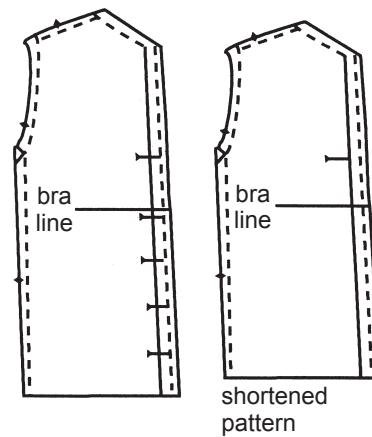

Figure 6
- If the pattern was lengthened, mark the same number of buttonholes below your waistline as indicated on the pattern (Figure 6).